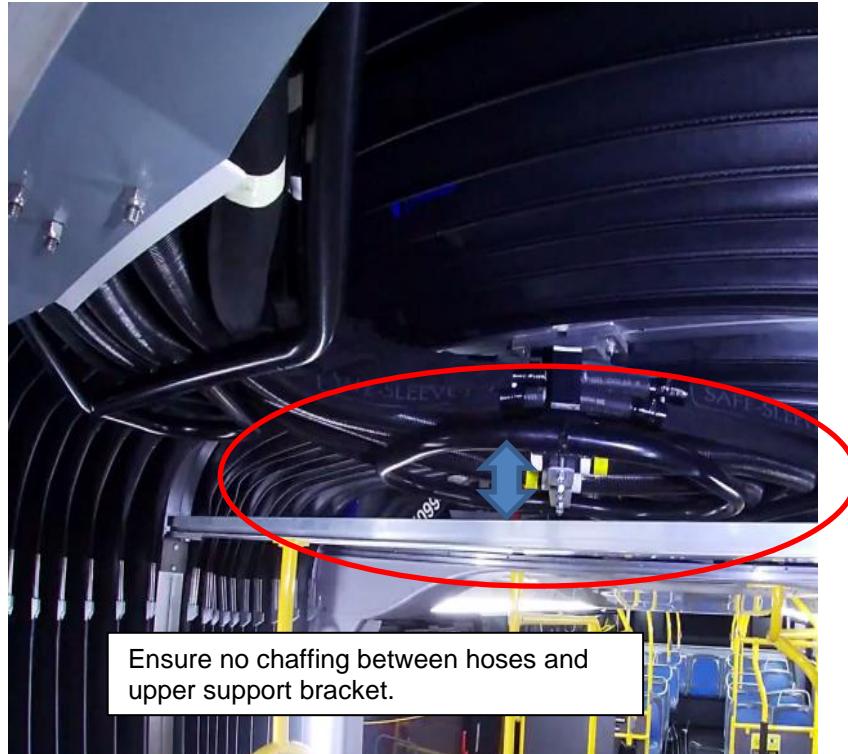

FIGURE 5: SHOWN CLEARANCE SO THAT THERE IS NO CHAFFING AT TOP CENTER SUPPORT
9. Ensure that no lines are rubbing/chaffing on the center support bracket. See view below showing the required clearance. See Figure 5.